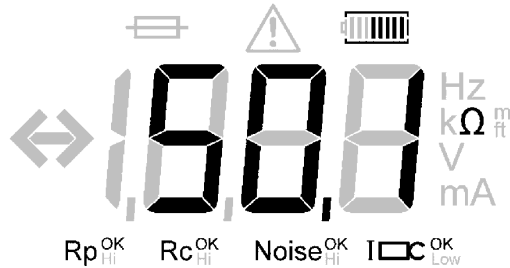

Figure 11: Three point resistance reading using ART
- A resistance measurement reading is displayed as shown in Figure 11.